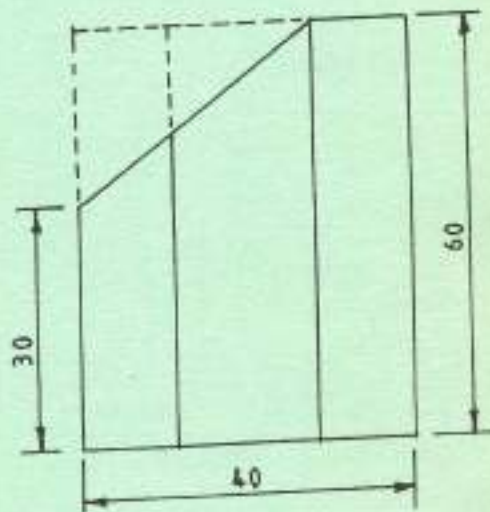

Fig.1
2. Figure 1 shows the front view of a truncated hexagonal prism. Using first angle projection draw the following views: